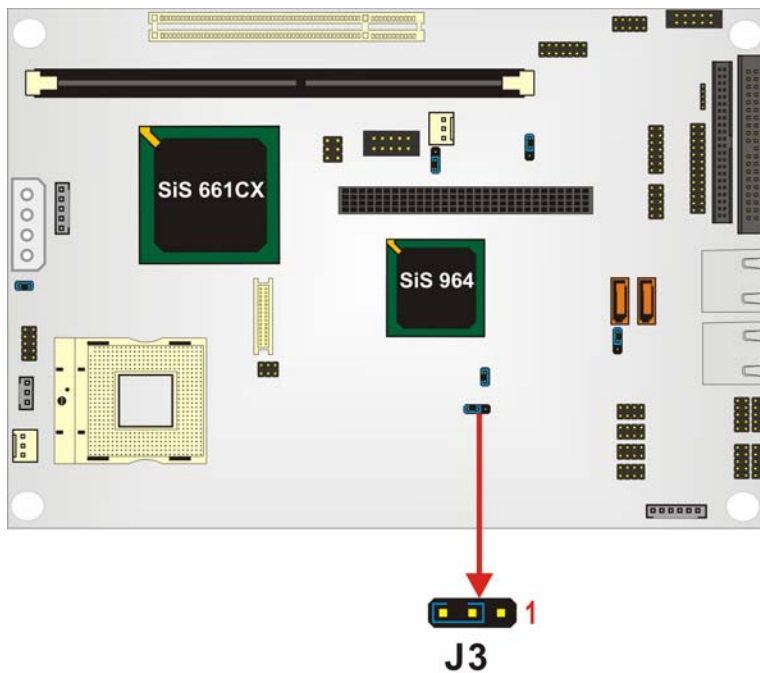

Figure 3-26: Clear CMOS Jumper Pinout Locations
- Jumper Location:** See Figure 3-26
The clear CMOS jumper is located in **Figure 3-26**.